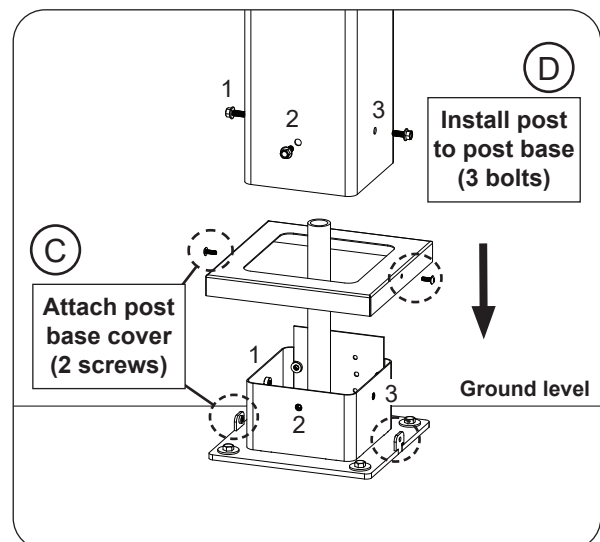

Fig. 4-3 Attach post to post base
4. Attach the post base cover to the post base with the provided screws and a Phillips-head screwdriver. See Fig. 4-3, C.
6. From outside the joined post and post base, insert one of the 1/4 X 20"-1/2" bolts (supplied) into each of the three (3) bolt holes and tighten each bolt using a 7/16" socket driver or wrench (see Fig. 4-3, D).